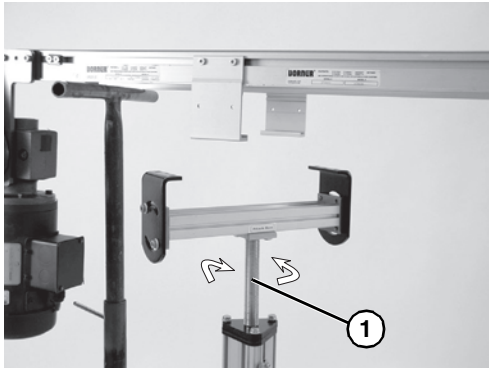

Figure 21
- Rotate the conveyor mounting bracket and crossmember tube (Figure 21, item 1) to the proper height.